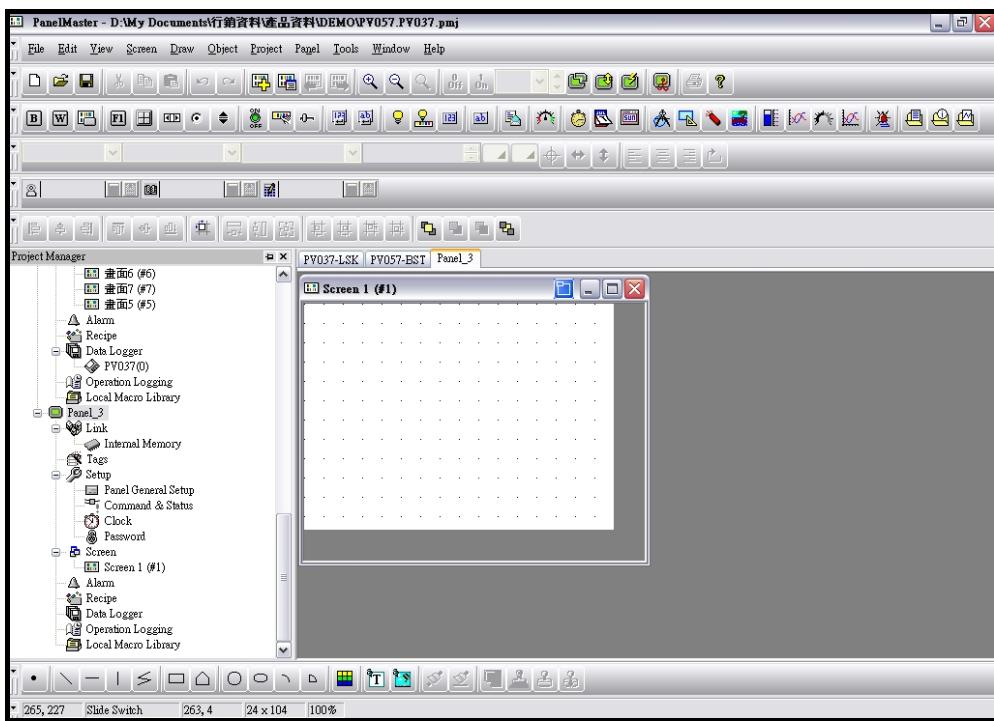

Figure 2-95 New project_step 4_ setting completed
Step 4 : Click 【finish】to complete a project setting. The PanelMaster will open a blank screen of the specified panel (GD057-TST) as shown in figure 2-95.